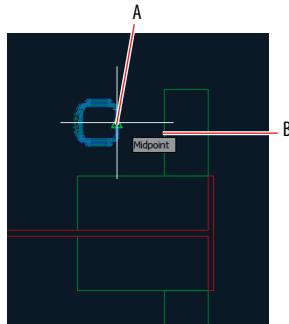

FIGURE 4.11 Selecting the base point for a move
4. Right-click the Object Snap toggle in the status bar, and choose Midpoint from the context menu if it is not already selected. Click the base point at the midpoint of the front of the chair (point A in Figure 4.11).
5. Click the second point (B in Figure 4.11). The chair is moved precisely to the midpoint of the desk edge.
7. Click the Copy tool in the Modify panel. Select the chair you just moved and press Enter twice. Select the midpoint of the desk (point B in Figure 4.11) as the base point, and then click the midpoint of the corresponding mirror image desk below in the same furniture group as the second point. Press Enter to end the COPY command.